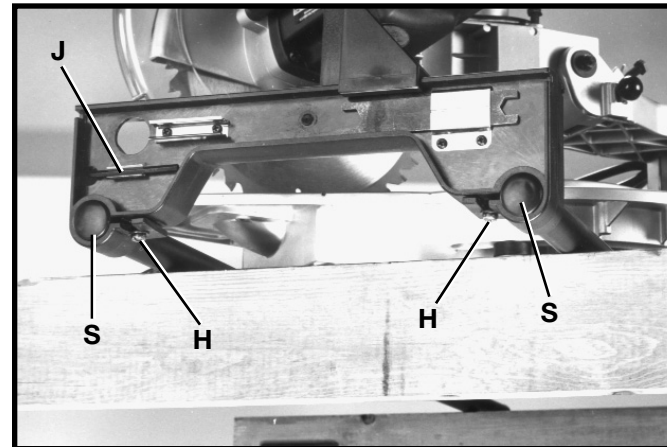

Fig. 63
6. Loosen two screws (H) Fig. 63, and slide table extension assembly (J) off rods (S). Remove table extension from other end of saw in the same manner.